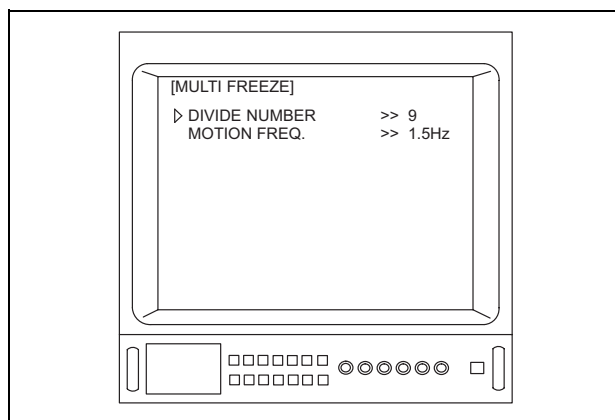

Figure 5.128
6. Depress the menu switches “◀” or “▶”, or the “↑/↓/←/→” key on the keyboard to move the arrow “>” to “DIVIDE NUMBER” (see Figure 5.128).
Depending upon the OTV-S7V's settings, the menus shown in Figures 5.128 and/or 5.129 may appear different from those displayed on the video monitor.